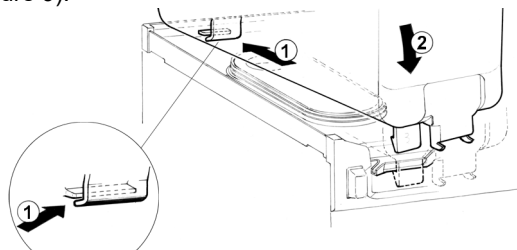

figure 9
- 5 Place bowl on the unit. Wet the gasket for ease of insertion. Please take care that the hook on the backside of the bowl be inserted properly in its seat on the upper drip plate. (see figure 9).